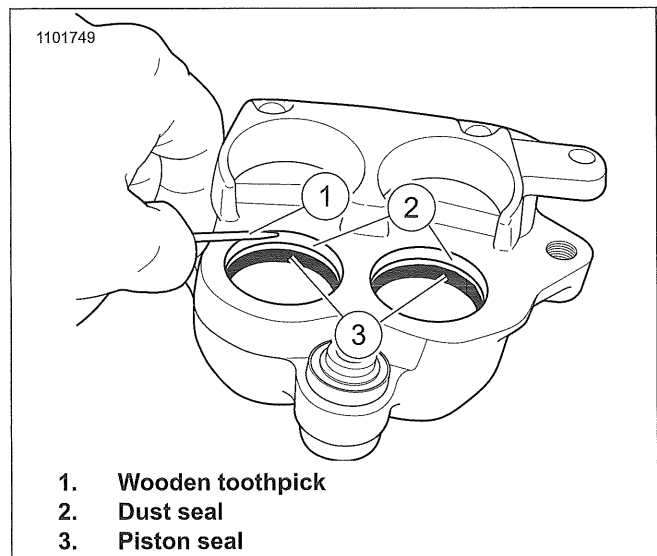

Figure 3-51. Rear Caliper Seals (Typical)
- b. See Figure 3-51. Install the piston seals (3) into the brake caliper piston bore.
- c. Install the dust seals (2) into the brake caliper piston bore.
- e. Install brake pad retaining spring (10).